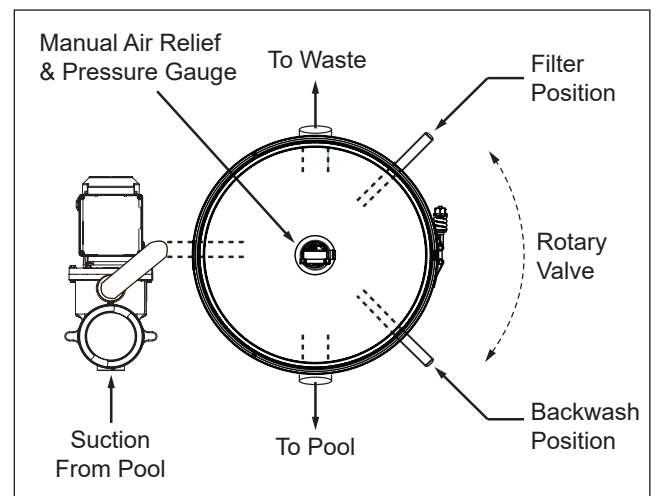

Figure 9
5. Position the valve to BACKWASH. See **Figure 9**.